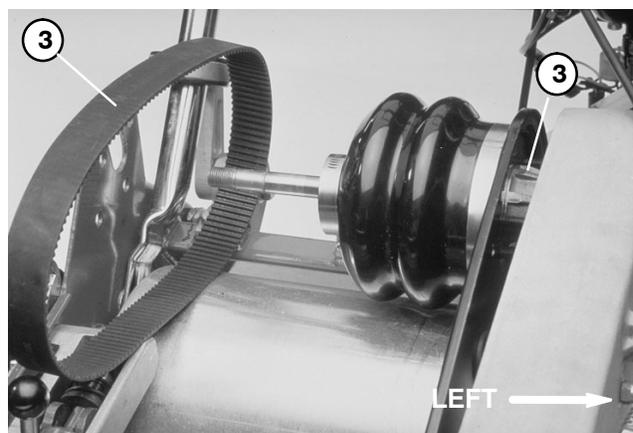

Figure 62
15. Slide differential assembly to the left to allow removal of the belt without bending or twisting. Remove old belt from the differential pulley and countershaft pulley (Fig. 62).
2. Install new belt to the differential pulley and countershaft pulley. Slide differential assembly to the right side plate (Fig. 62).